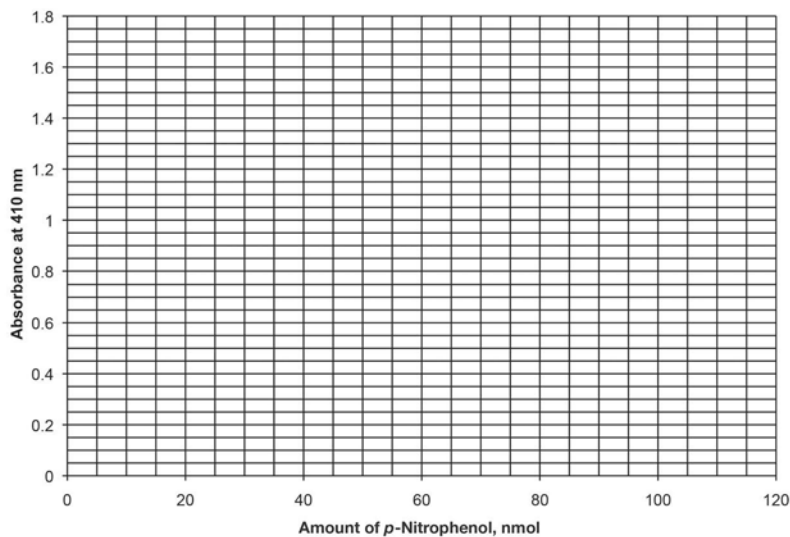
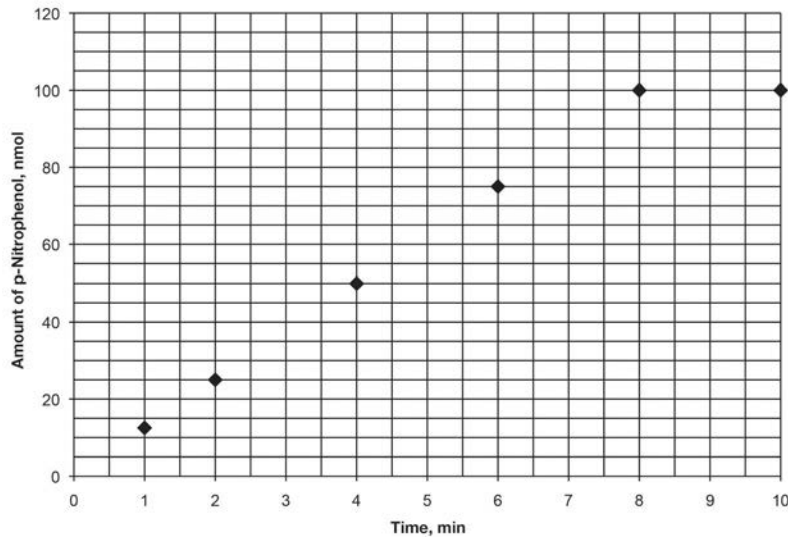
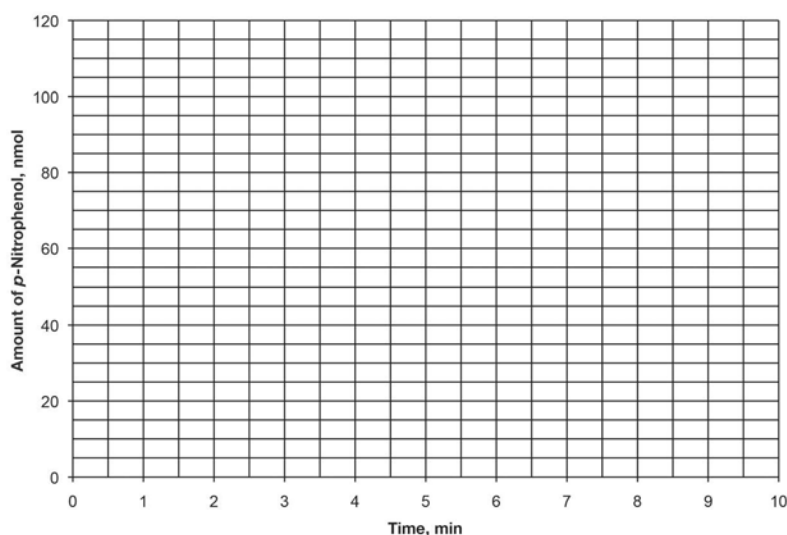

Fig. 5. Creating a standard curve. Plotting absorbance of *p*-Nitrophenol against the known quantities of *p*-Nitrophenol standards, S1–S5.
Fig. 6. Example of a rate curve for an enzyme reaction. The amount of product made is plotted against time to determine the initial rate of reaction.
Fig. 7. Reaction rate curve for cellobiase. The amount of product made is plotted against time to determine the initial rate of reaction.
1.6 How can knowing the amount of *p*-Nitrophenol in your enzyme reaction provide information about the amount of glucose produced? Hint: Look back at the reaction mechanism shown in Figure 5 of the background information.
Use the data in **Table 3** to create a standard curve. Plot the absorbance values for each standard in **Figure 5**, and then draw the line that best goes through all the data points.
Calculating initial rates of reaction allows you to compare enzyme activity between different extracts. To calculate the initial rate of your reaction, see Figure 6 for an example.
In Figure 6, the amount of product, *p*-Nitrophenol, is plotted over time to determine the initial rate of product formed. The unit of measure is nmol/min.
As demonstrated in **Figure 6**, plot the amount of *p*-Nitrophenol produced over time on the graph in **Figure 7** using data from either **Table 2** or **Table 4**. Draw a line that best fits through the data points.
1.12 How does creating a standard curve (Figure 5) help determine the rate of *p*-Nitrophenol production in the presence of cellobiase (Figure 7)?